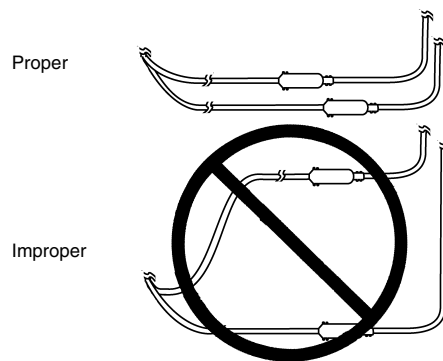

Figure 2. Routing for two lead-extensions.
- When two leads are implanted, route the lead-extensions so the area between them is minimized (Figure 2). If the lead-extensions are routed in a loop and the patient is exposed to some sources of electromagnetic interference (eg, theft detectors), the patient may perceive a momentary increase in stimulation, which some patients have described as uncomfortable stimulation (jolting or shocking sensation).